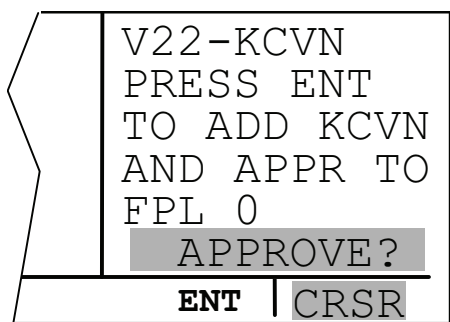

Figure 3D-67. Loading the Approach
8. Load the approach into the flight plan. If there is only one IAF, the KLN 90B does not give the option to choose an IAF. If there is no active flight plan (i.e., direct to navigation is being used without an active flight plan), the KLN 90B will ask to add the airport and the approach to FPL 0. Refer to Figure 3D-67.